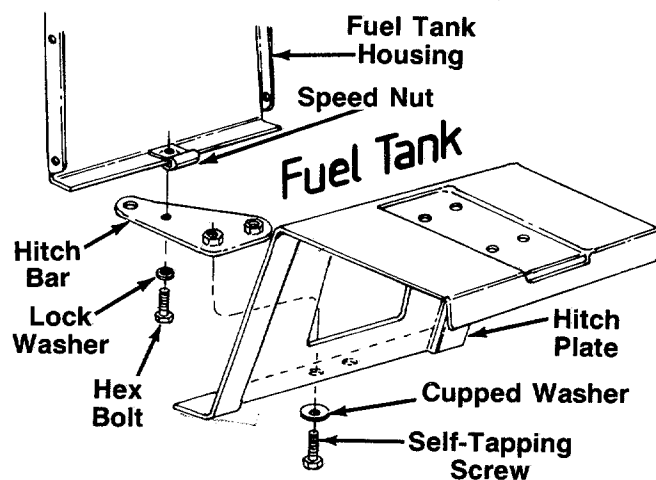

FIGURE 5.
1. Assemble the hitch bar as follows. Place the hitch bar assembly (weld nuts up) above the edge of the hitch plate on the tractor. See figure 5. Secure with two self-tapping screws 3/4" long and cupped washers (cupped side of washers goes against the hitch plate).